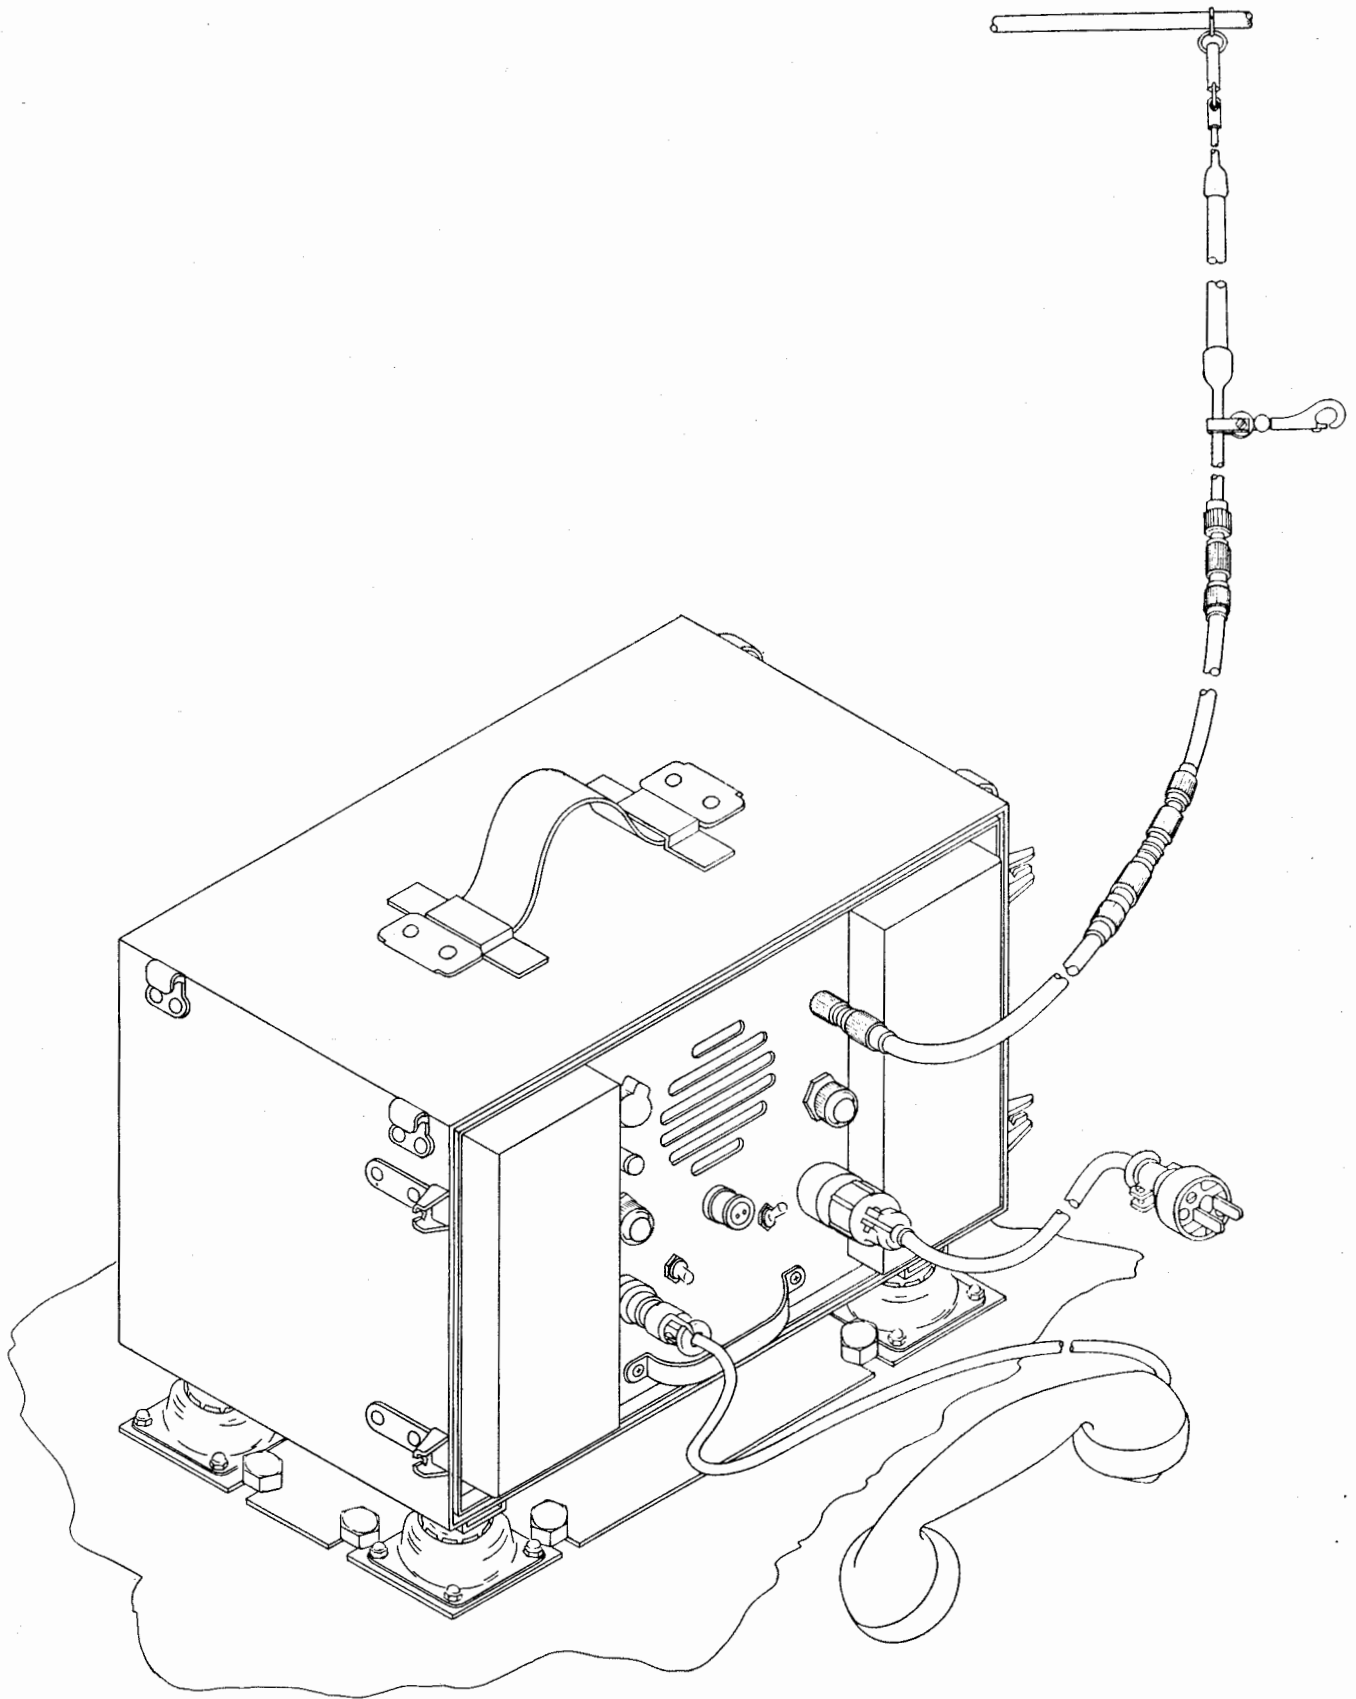

Figure 2-1—Navy Type COL-43065 Radio Transmitter-Receiver Installation
1. INSTALLATION. (See figure 2-1.)